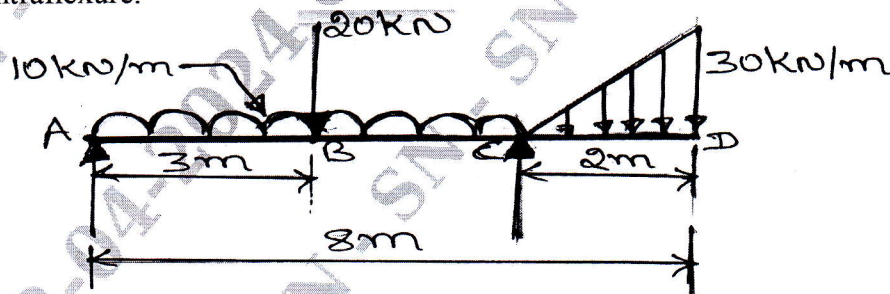

Fig.Q.6
- 6 Draw shear force and bending moment diagrams for the beam shown in Fig.Q.6. Locate the point of contraflexure. (20 Marks)